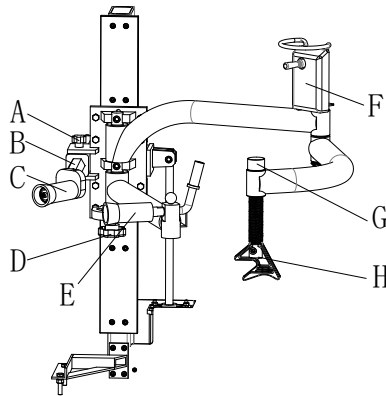

Fig 11
**Fig 11** shows functional parts to the 056 device: